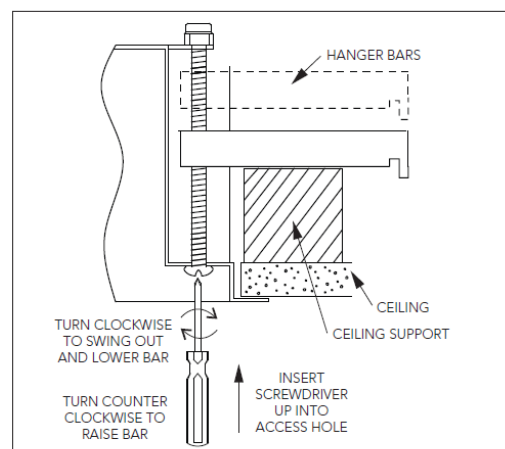

Figure 7
- Once the conduit is connected to the fixture, you can lift the fixture through the ceiling opening. The door of the fixture will need to be opened to gain access to the sway bracket adjustment screws. Turn these screws in a clockwise direction to swing the wing of the sway bracket out from the fixture as shown in Figure 7. When this has been done at all four of the sway brackets the fixture can support itself on the framing around the opening.
6. Once the electrical conduit is connected to the fixture, it can be lifted into the ceiling opening. The door of the fixture will need to be opened to gain access to the sway bracket adjustment screws. Turn these screws in a clock-wise direction to swing the wing of the sway bracket out from the fixture as shown in Figure 7. When this has been done at all four of the sway brackets the fixture can support itself on the framing around the opening. Do not completely tighten the hangers yet. Adjust location of fixture in opening so end of fixture lines up with marked point. This is the location where the next fixture end plate butts against the first fixture. The end trim should completely cover the ceiling opening at the row end.